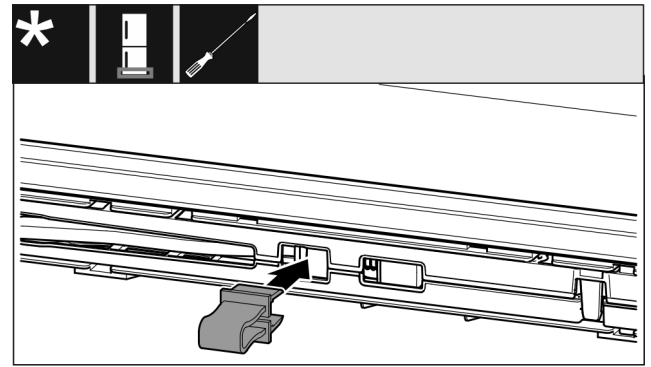

Fig. 12
- Engage the locking device in the opening Fig. 12 ().